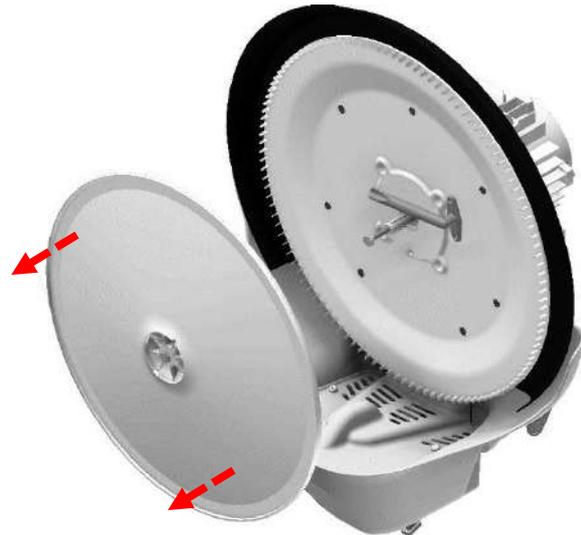

Fig. 4.4.4
- Use a screwdriver (hex 13) to tighten the screw, which will push out the disc effortlessly as it enters the hole. (Fig. 4.4.4)